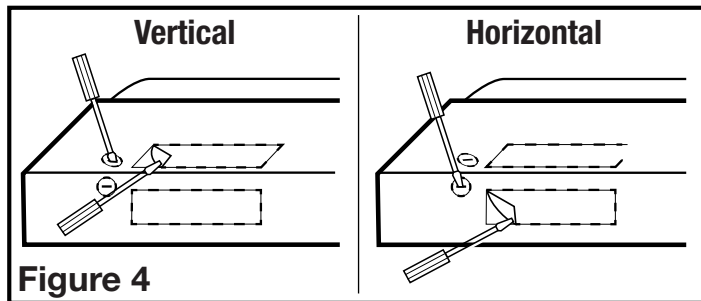

Figure 4
3. Remove the appropriate square knockout by inserting a screw driver under the edge and break the tabs holding it in place. Peel back with pliers (**Figure 4**).
4. Determine where the electrical service will enter the hood and remove the appropriate electrical knockout by inserting a screw driver into the slot and rocking back and forth until the knockout comes loose (**Figure 4**).